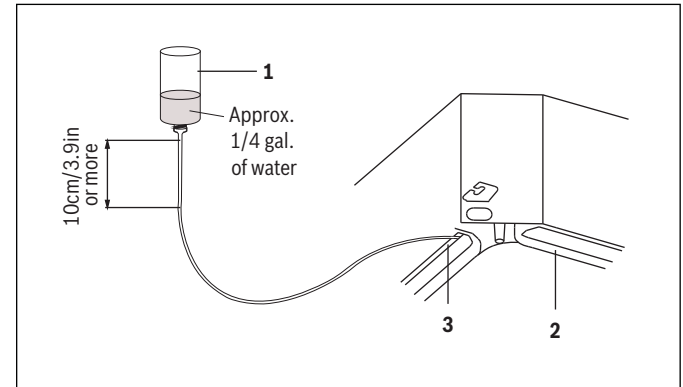

Figure 18
- ▶ Put approximately 1/4gal. of water into the drain pan through the fresh air intake. Make sure not to pour water over the drain pump or any electric parts including the drain pump. Method of adding water is shown below in figure 18.